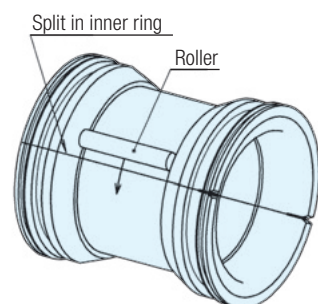

Fig. 6 Inspection of Inner ring Installation Condition
- (6) After the reamer bolts have been tightened, remove excess liquid packing squeezed out from the split of the inner ring.
- (7) Make sure that the inner ring has been properly installed on the roll, by rolling a greased roller or sliding a finger on the raceway surface. There should be no step at the split (see Fig. 6).